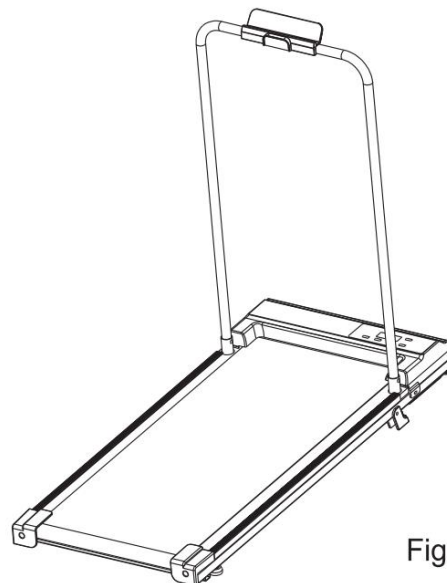

Figure 4
D: As shown in Figure (3), adjust the (2) Two-level Incline to the desired slope by following the arrow direction. Assembly is now complete (Figure 4).